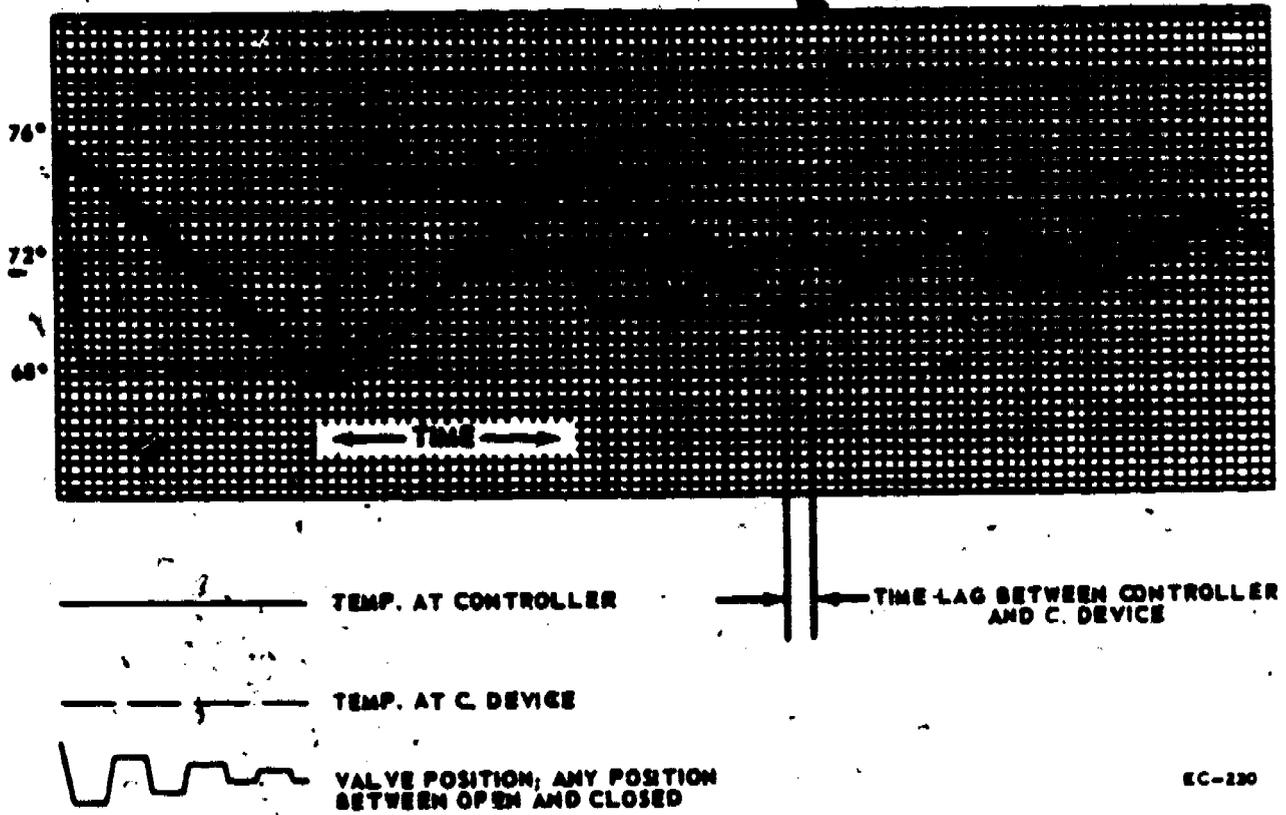
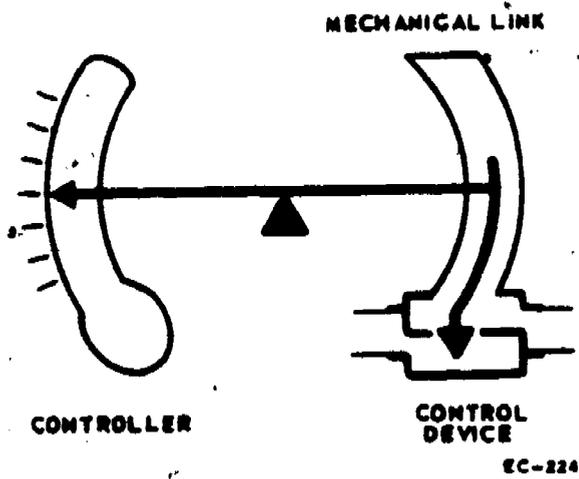

Figure 28. Modulating Control Circuit Graph
Figure 29. Modulating Control Feedback
3. **Modulating:** The term "modulating" refers to electrical control circuits. The term "Proportional" refers to pneumatic control circuits. They produce the same type of control, for they both have feedback: pneumatic feedback, produced by the feedback chamber in the pneumatic relay; and mechanical feedback, produced by the balancing potentiometer in the series-90 control circuit. From figure 28 you will see that the modulating control circuit produces a very close control of the variable. Overshooting and undershooting is minimum. The lag time between the controller and the control device is also minimum. Figure 29 illustrates a mechanical link between the controller and the final control element.